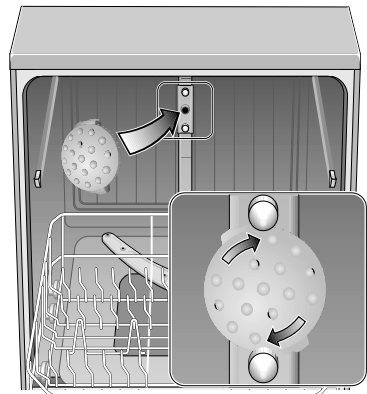

Figure 37
- Place the "Extra Tall Item Sprinkler" over the top rack spray outlet at the back of the dishwasher tub and turn it clockwise to lock the sprinkler head in place. See Figure 37.